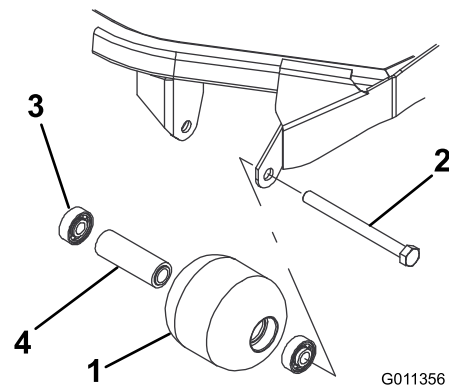

Figure 92
1. Remove the roller-mounting bolt (Figure 92).
4. Inspect the roller housing, bearings, and bearing spacer for damage (Figure 92). Replace any damaged components and assemble them.
1. Press the first bearing into the roller housing (Figure 92). Press on the outer race only or equally on the inner and outer race.
2. Insert the spacer (Figure 92).
3. Press the second bearing into the roller housing (Figure 92). Pressing equally on the inner and outer race until the inner race comes in contact with the spacer.